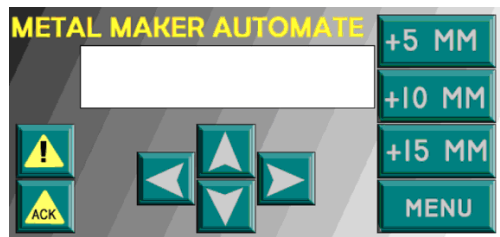

Figure 3-17 Non-Reversed Panel Image
- Not reversing the panel image (see Figure 3-17) prints the faceplate so that the elements can be read correctly. Use the non-reversed image when you print a paper copy of the faceplate for review.